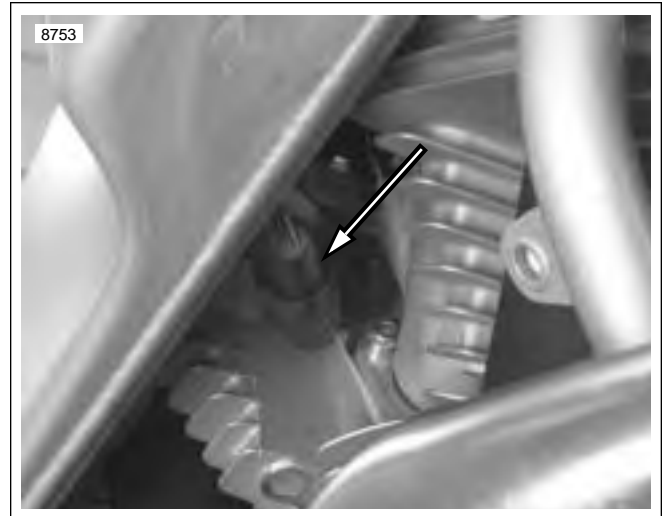

Figure 4-81. Throttle Position Sensor Location
2. See Figure 4-81. Disconnect throttle position sensor connector [88].